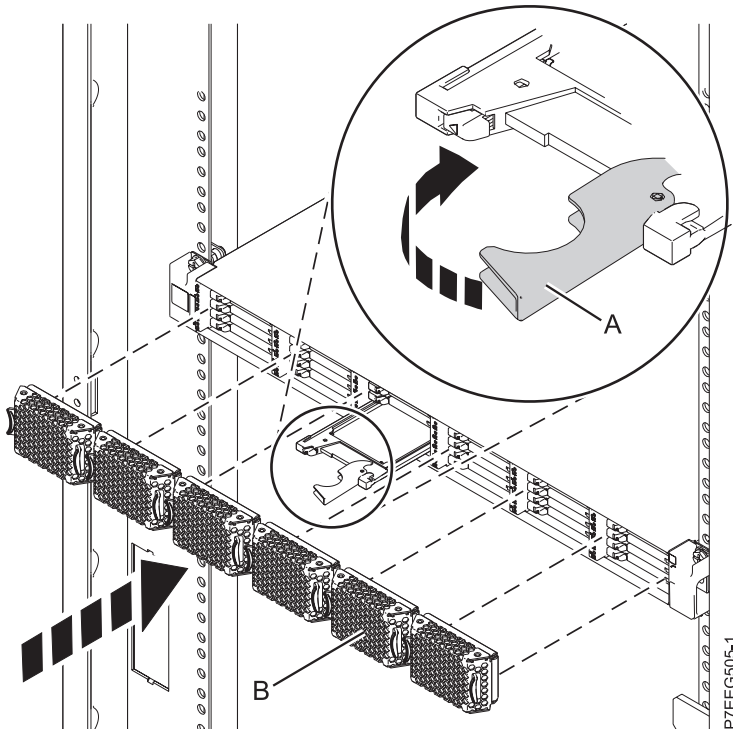

Figure 48. Replacing a solid-state drive in the EDR1 PCIe storage enclosure.
4. When the solid-state drive identify LED flashes, slide the solid-state drive all the way into the EDR1 PCIe storage enclosure until it is fully seated. Then rotate the handle (A) to the locked position. See Figure 48 on page 72.
5. Install the bezel (B).